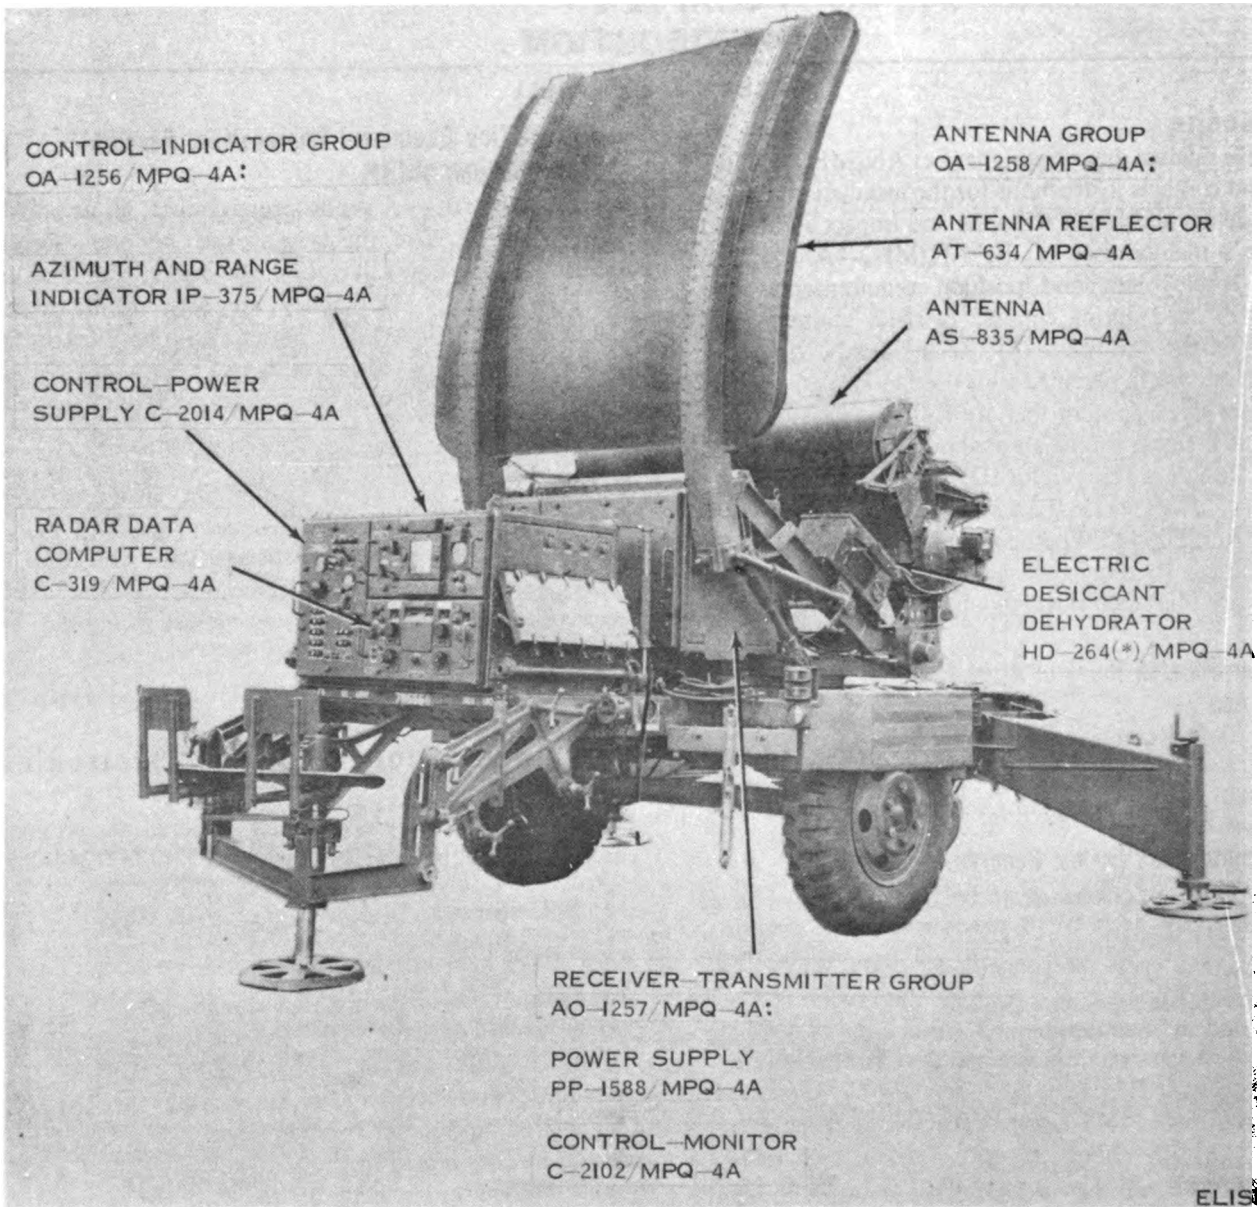

Figure 1-2. Radar Set AN/MPQ-4A, rear view.
b. Provision is made for removing Control-Indicator Group OA-1256/MPQ-4A (fig. 1-2) for remote operation, and emplacing it up to 150 feet (45.7 meters) away.
Other operating components of the AN/MPQ-4A are also shown in figure 1-2.